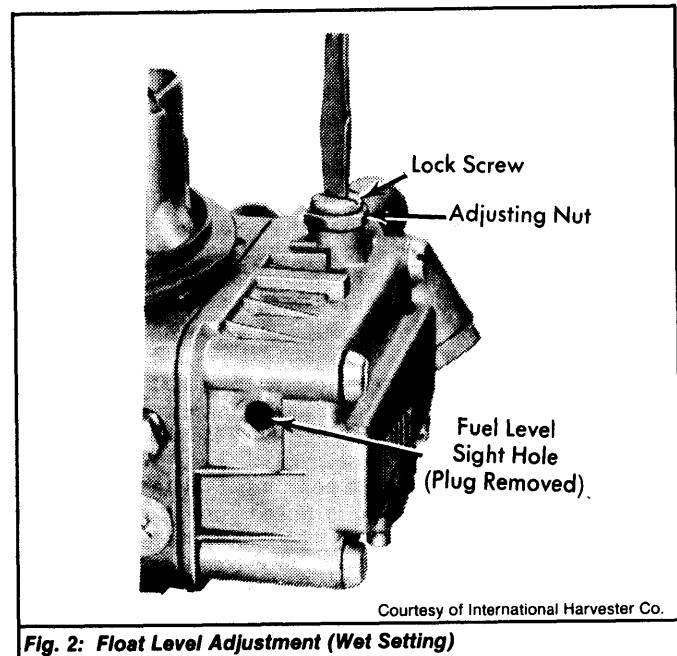

Fig. 2: Float Level Adjustment (Wet Setting)
1) With engine at normal operating temperature, place vehicle on a flat, level surface. Remove air cleaner. Check fuel level at each float bowl separately. See Fig. 2.